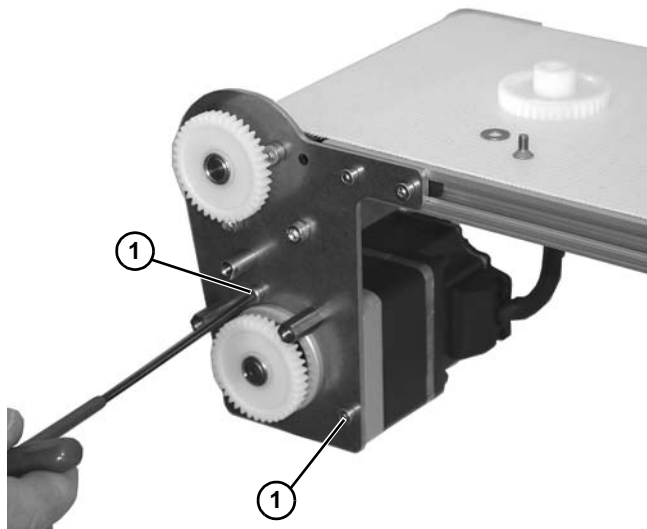

Figure 15
10. Remove two screws (Figure 15, item 1) from gearmotor.